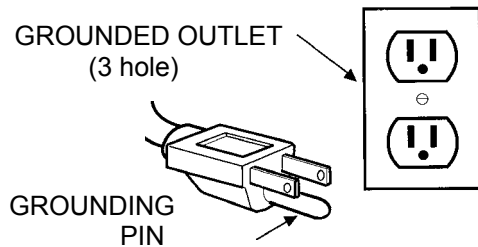

Fig. 3
5. Plug machine's power cords into grounded wall outlets on separate circuits (Figure 3). Green circuit indicator light on switch panel illuminated confirms connection to separate circuits.